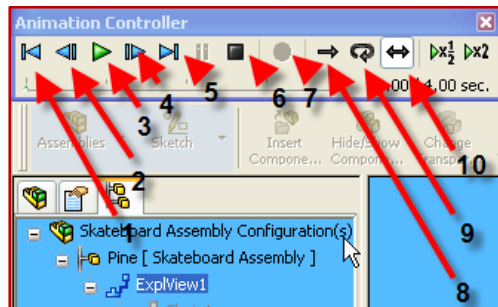

Figure 11.5 – Explode Animation Menu
- ✓ The menu in Figure 11.5 will appear to allow the user to control the animation. Table 11.1 shows what options are available.